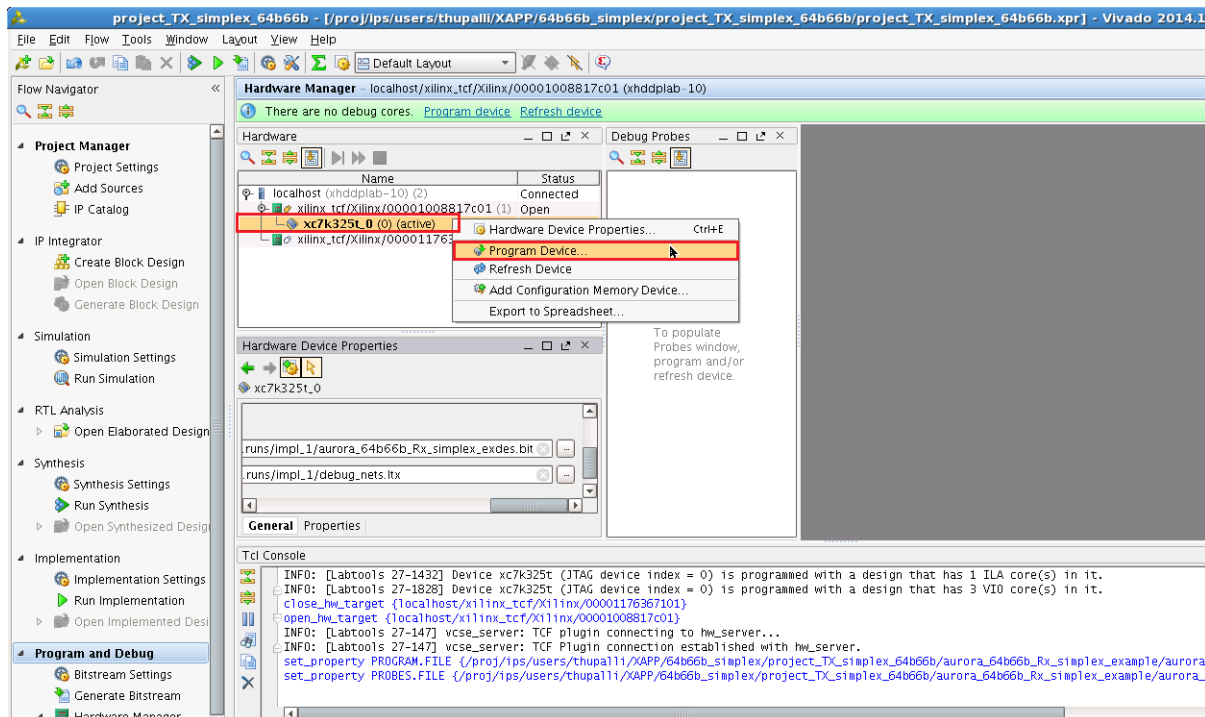

Figure 20: Program Device
- Right-click the device in the Hardware list and select **Program Device...** (Figure 20). Ensure that the bitstream file path and name are correct and click **OK**.